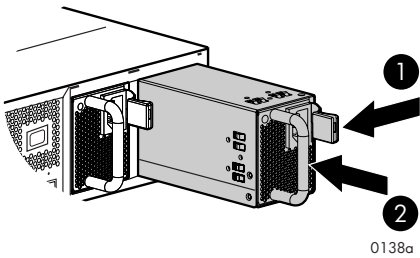

Figure 4 Installing a power supply
- While pressing in on the mounting latch (1, Figure 4), slide the power supply into the enclosure until it is fully seated (2).